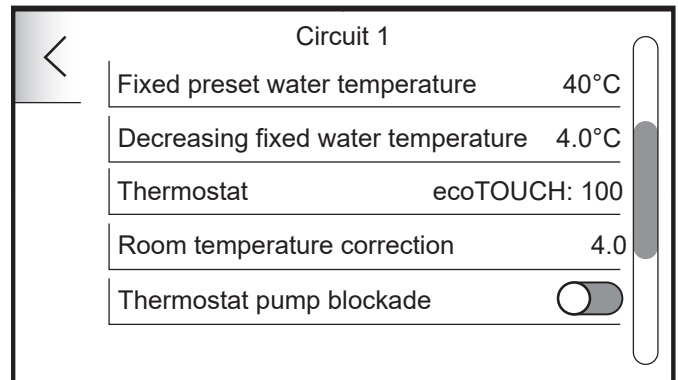

Figure 7-13: Edit Circuit 1 settings
- Swiping the touchscreen display scroll down to 'Thermostatic pump blockade'. Tap the icon to switch on. (Refer to Figure 7-13)